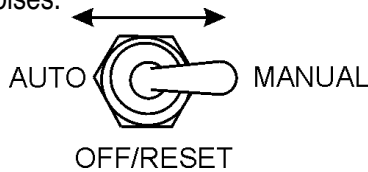

Figure 40. Auto-Off/Reset-Manual Switch
8. Place the Auto-Off/Reset-Manual switch in the “**Manual**” position to start the engine (Figure 40). Once the engine starts, let the engine run for 1-2 minutes. Listen for any abnormal noises.